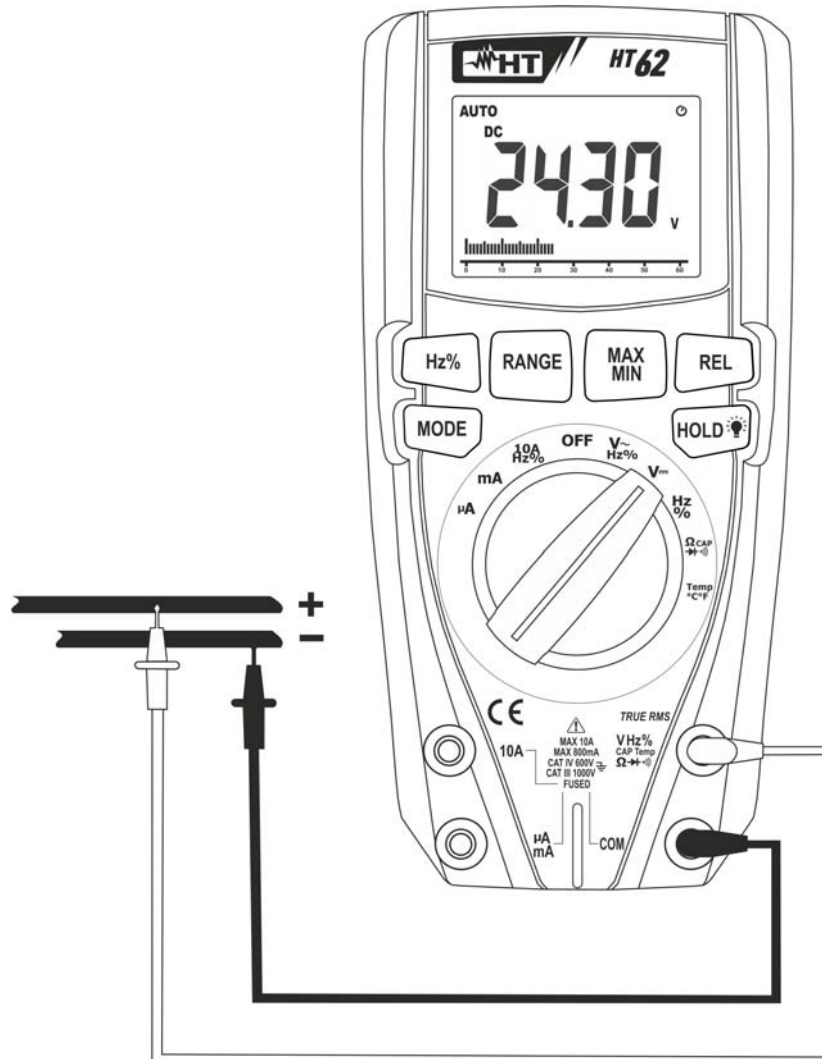

Fig. 2: Use of the instrument for DC voltage measurement
3. Position the red lead and the black lead respectively in the spots with positive and negative potential of the circuit to be measured (see Fig. 2). The display shows the value of voltage.
5. When symbol "-" appears on the instrument's display, it means that voltage has the opposite direction with respect to the connection in Fig. 2.